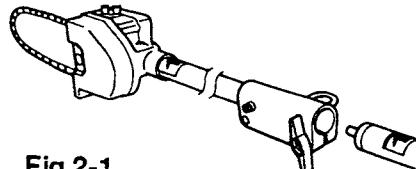

Fig.2-1
2. Join the attachment in place of it. (Fig. 2-1)